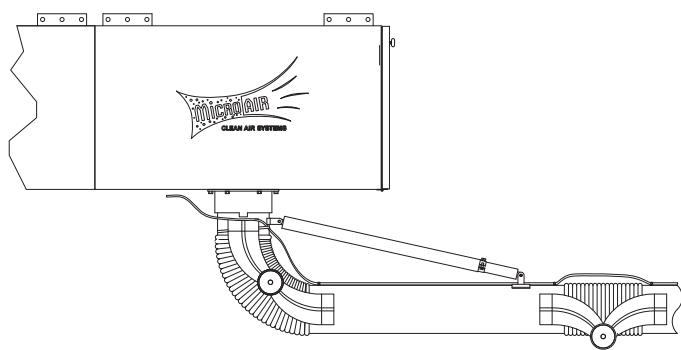

FIG 3
5. The finished assembly should resemble the assembled view (Fig. 3).